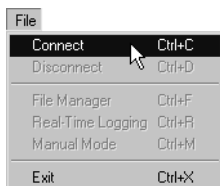

Figura 2-9. File ▶ Connect
2. Haga clic en **File ▶ Connect** (Figura 2-9).